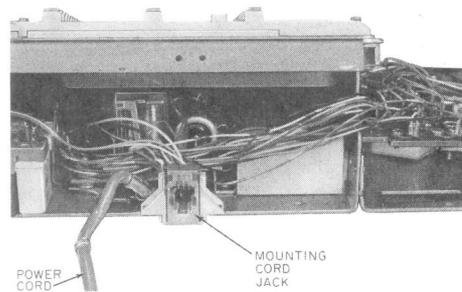

Fig. 6—870A2M Telephone Set, Partial View
- (1) Remove the housing (3.21) and access the PSB terminals (3.18).
- (2) Remove D6AD-87 mounting cord.
- (3) Install the 623P6 jack as shown in Fig. 6.
- (4) Connect the spade-tipped jack leads as follows.
- (a) (R) wire to TB-4.
- (b) (G) wire to TB-8.
- (c) (Y) wire to TB-2.
- (d) (BK) wire to TB-1.
- (e) Insulate and store (BL) and (W) conductors.
- (5) Connect (Y) lead of M2SL-87 cord to PSB-24 and the (BK) lead to PSB-25 and route cord through housing.
- (6) Connect the cord to the 95B-type power unit.
- (7) Reassemble the set.
- (8) Install a 625-type connecting block.